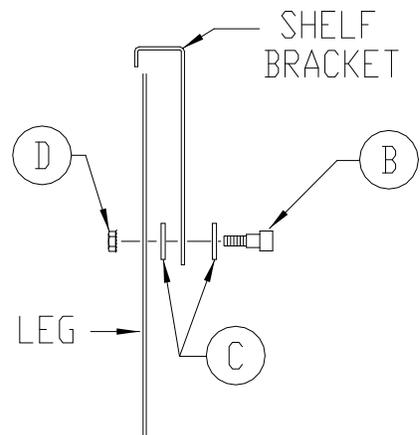

Figure 3
4. Assemble the flip-up shelves with two nylon washers, one hex nut, and one shoulder bolt to each table leg. One nylon washer must be placed between the shelf bracket and table leg. See Figure 3.